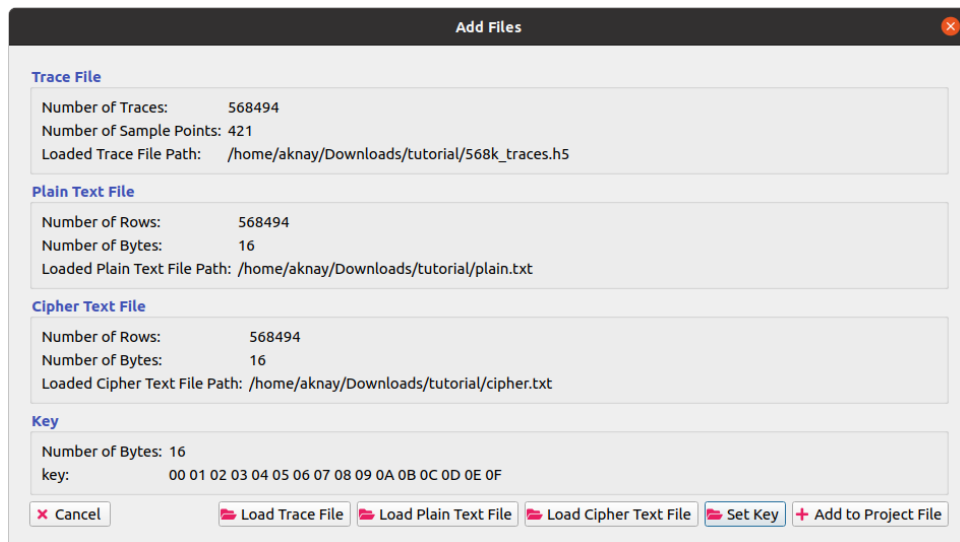

Figure 13: Add files to the project file
- The “Add Files” window is displayed as shown in Figure 13.